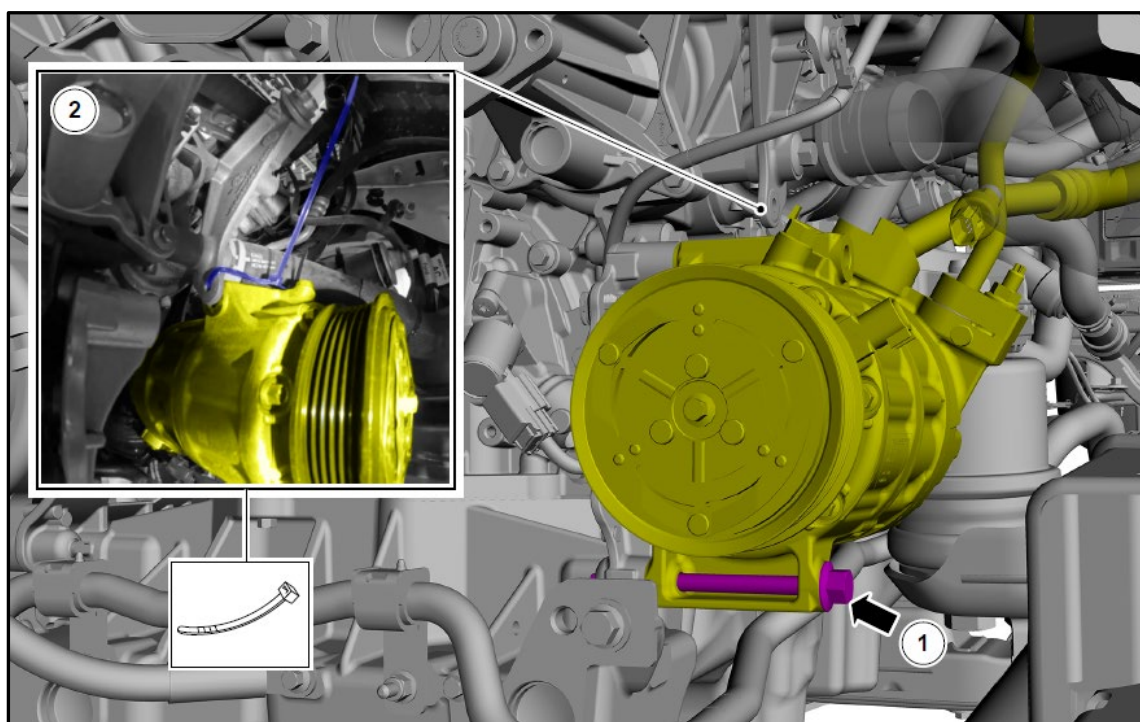

Figure 8
- C. Using care to support the A/C compressor at all times, to prevent any undue stress or movement on the A/C hoses, remove bolt 1, position the A/C compressor aside and secure to the upper support Front End Accessory Drive (FEAD) bracket 2. Figure 8